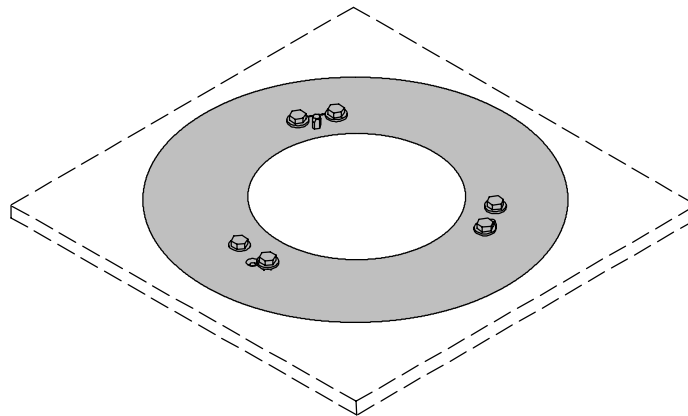
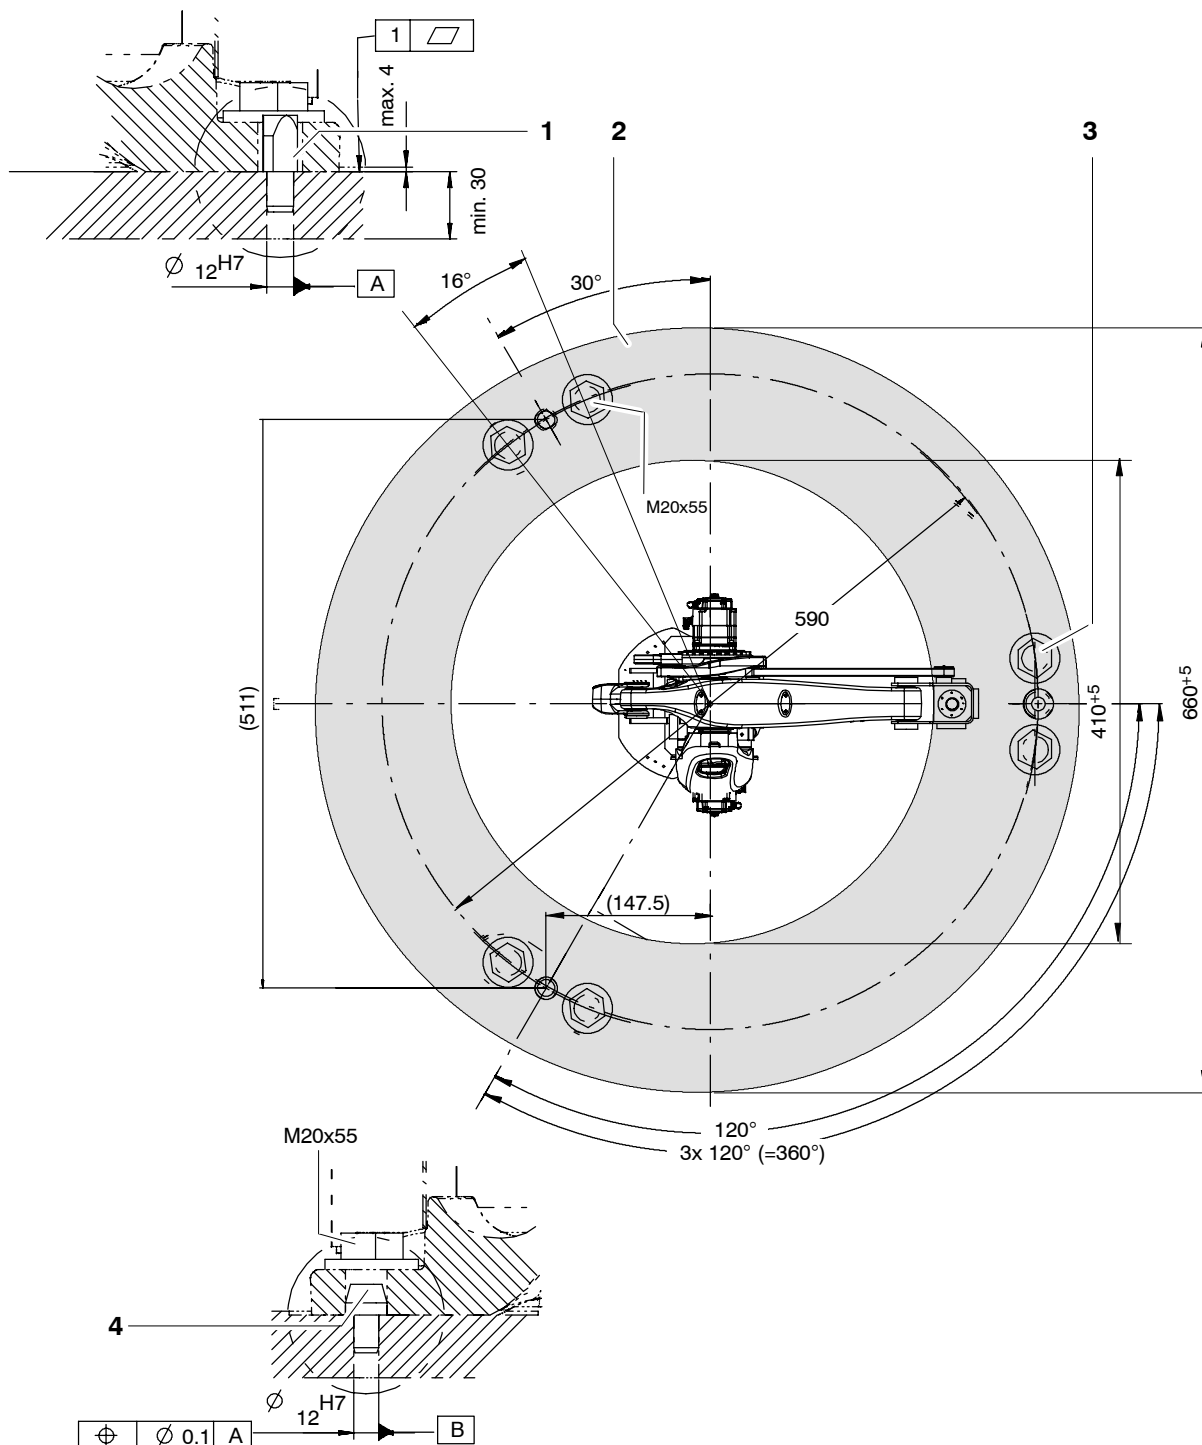

Fig. 39 Machine frame mounting
Fig. 40 Machine frame mounting, connecting dimensions
The machine frame mounting is used to install the manipulator on a customer-provided steel structure. Fig. 39 shows the components of this mounting base. Fig. 40 gives the dimensions for the substructure and the orientation to the working envelope.
- (1) Prepare the mounting surfaces (Fig. 40/2) on the steel structure in accordance with Fig. 40.